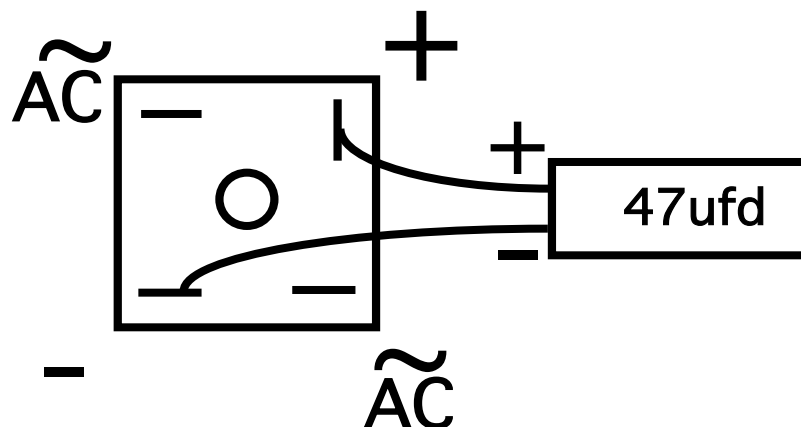

FIGURE 6
(2). Solder the 47uF electrolytic capacitor across the (+) and (-) terminals of the bridge rectifier. Pay close attention to polarity markings on the bridge and on the capacitor. See FIGURE 6 for details.